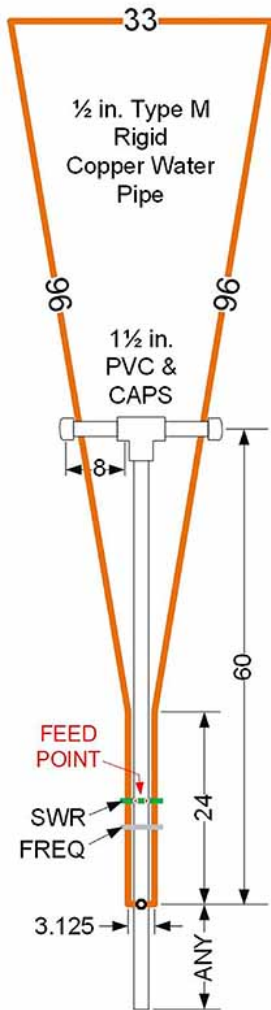

Figure 5: Essential dimensions.
Figure 5 gives the essential dimensions. Table 1 lists the materials. Note the feedpoint and the moveable bars in the bottom section (details below).
4. 24 in. from the bottom ends of both side pipes, partially, flatten the pipes with the tips of a Vice-Grip type pliers. Figure 7. The pipes will now bend neatly at the half-flattened points. Make certain, however, that the bends are rotated 90 degrees from flattened top ends so that the bottom 24 in. sections will lie parallel. (Figure 5 & 8). This permits the movable bars to slide freely on the side pipes.
6. Drill a ¼ in. hole for a bolt to attach the antenna to the PVC support assembly, through the center of the short pipe stub at the bottom, perpendicular to the plane of the delta, Figure 5.
This re-design of the classic rectangular Hentenna implements easier tuning and matching, via movable adjustment bars, one for frequency (tune) and one for SWR (match). The bars slide along the parallel pipes for adjustment, Figure 5 and 8.